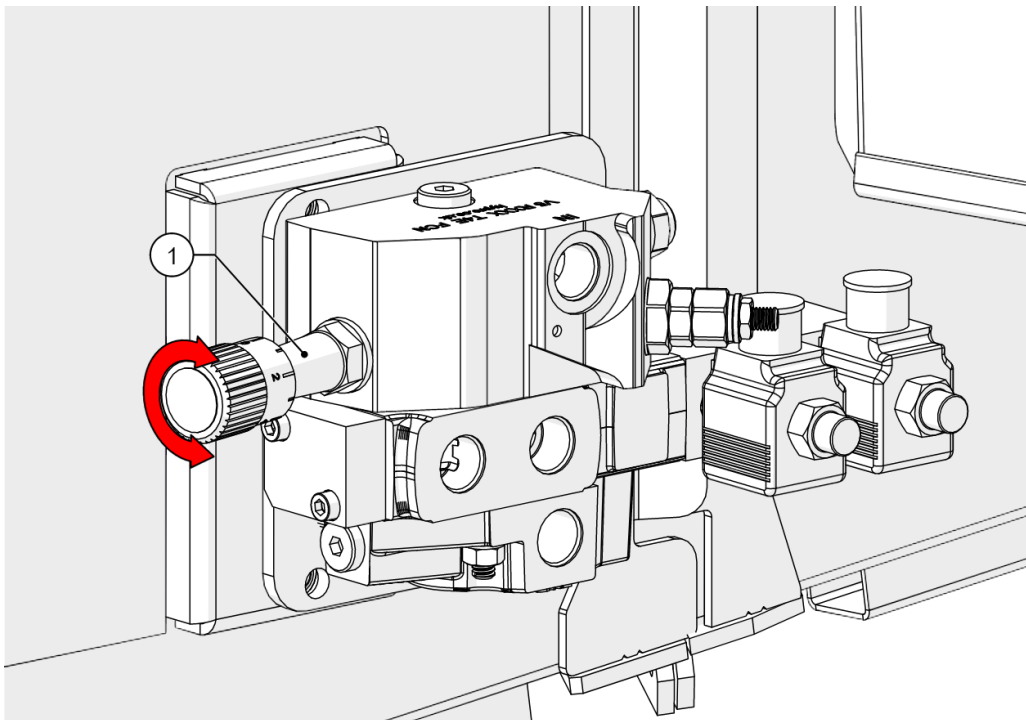

Figure 30 - Feed roller speed adjustment
The feed roller speed can be adjusted to suit the material being chipped, refer to Figure 30.
1. Turn dial to align number with paint spot (1, Figure 30).
Position indicated by paint spot. (1, Figure 30):